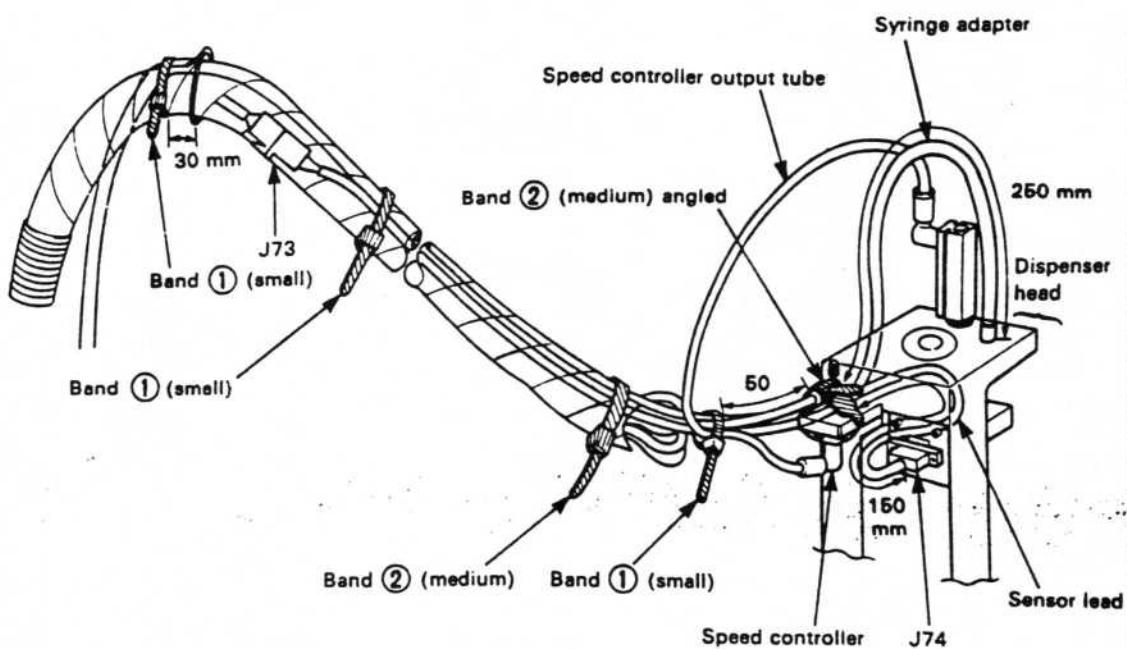

Fig. 2
- (1) Remove bands ① and ② taking care that they are not severed (see Fig. 2).
- (2) Disconnect the sensor lead connector J74 from the sensor (see Fig. 2).
- (3) Remove the sensor lead connector J73 (see Fig. 2).